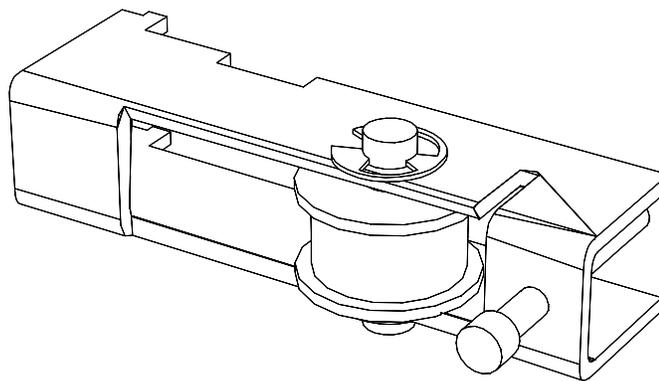

Fig. 15 - Belt tensioner assembly
- 1) Remove the machine from the stand, and place on a flat dry surface. Remove the left side cover of the machine. There are two (2) black phillips screws holding the cover to the left end plate in front, and back.
- 2) To remove the pinch wheel assembly, the left end plate must be removed. To do this, start by loosening the "Y" axis belt. With a 9/64" hex wrench loosen the belt tensioner on the left side of the machine. *See fig. 15*